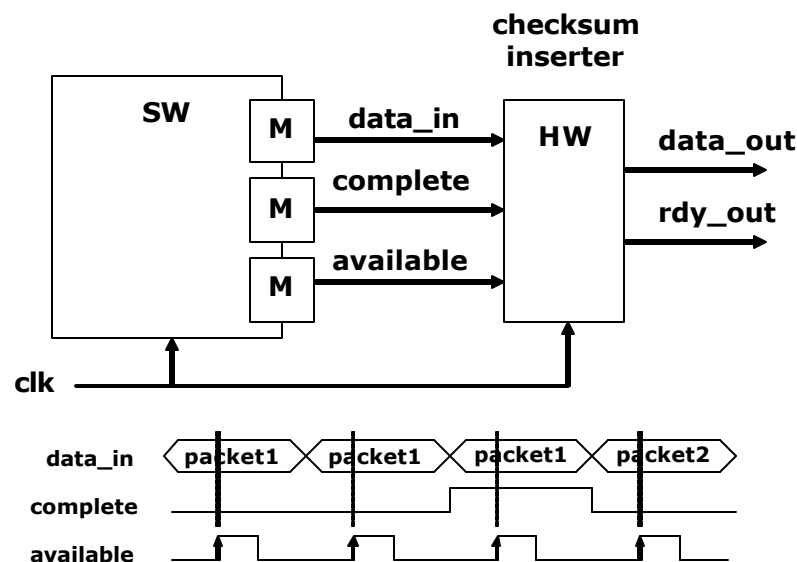

FIGURE 1. Handshake protocol to connect the checksum inserter hardware to a core running the rest of the TCP/IP protocol.
Figure 1 shows the integration problem that we are considering at this moment. The *checksum inserter* is a block for which we designed a dedicated FSM hardware model. The block processes packets which are provided out of an optimized software implementation of the HTTP/TCP/IP protocol stack. The interface between hardware and software is memory-mapped. This means that there are predefined addresses in the software memory space that map to the inputs of the checksum inserter. We also assume here that the core and the checksum inserter block run off a single synchronous clock.
a) On the project homepage, you will find a package `hw6.zip` that contains a subdirectory `leon`. The directory contains the following files: `chkdrv.c` is the reference testbench in C, the program that runs on the block 'SW' in figure 1. `checksum.fdl` is a reference implementation of the checksum inserter block, as we have developed in HW5. This block does not contain the single-sided handshake protocol yet, but it does show how the hardware/software interface should be added. `makefile` shows how to compile the `chkdrv.c` file (which will run on top the the LEON instruction set simulator).
a) On the project homepage, you will find a package hw6.zip that contains a subdirectory arm. The directory contains the following files: *chkdrv.c* is the reference testbench in C, the program that runs on the block 'SW' in figure 1. *checksum.fdl* is a reference implementation of the checksum inserter block, as we have developed in HW5. This block does not contain the single-sided handshake protocol yet, but it does show how the hardware/software interface should be added. *makefile* shows how to compile the *chkdrv.c* file (which will run on top the the ARM instruction set simulator). The *sim* subdirectory contains the GEZEL-arm cosimulator. It will only run on Linux, for which you should have installed a cross-compiler earlier (HW1).
a) On the project homepage, you will find a package hw6.zip that contains a subdirectory specc. The directory contains the following files: *checksum.sc* is the reference implementation of the checksum insertion processor in SpecC, as we have developed in HW5. It is given as a starting point to integrate the new protocol. *checksys.sc* is the reference testbench, that represents Fig 1. This program makes uses of a channel and interfaces to simulate the HW/SW connection. This file also contains an empty 'checksum' box, that should be filled out with a protocol-enabled version of *checksum.sc*.